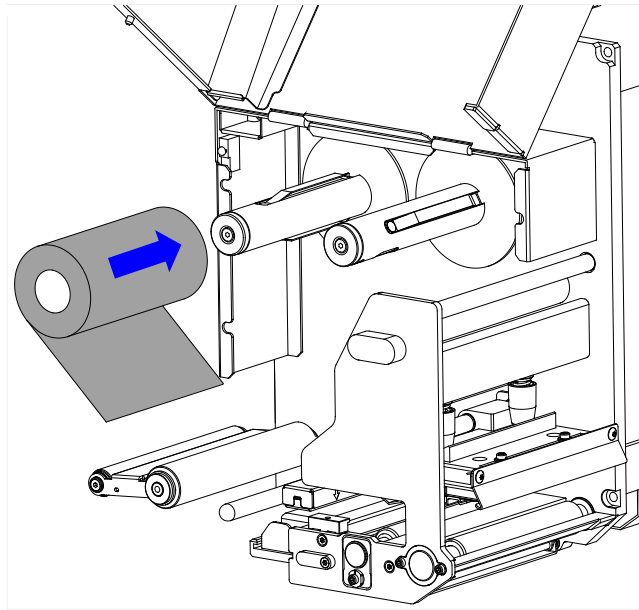

Figure 2-15 Load Ribbon Roll
4. Place the ribbon roll on the Ribbon Supply Spindle, see Figure 2-15. Make sure that the ribbon roll is firmly pushed against the Stop Plate.